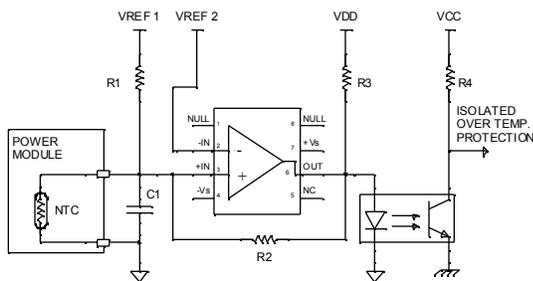

Fig 2: Example of NTC thermistor comparator circuit
The NTC thermistor can easily be used for module protection without computing the actual thermistor temperature. Comparing the voltage across the NTC thermistor to a reference voltage (see figure 2), and stopping the operation of the module if it becomes too hot reduces the risk of module failure.
If the NTC thermistor is placed in the bottom leg of a voltage divider as in figure 2, the resulting voltage at the input of the comparator decreases from almost VREF1 to the voltage trigger level VREF2 as the NTC thermistor temperature increases.
In practice, a comparator with hysteresis is used, and resistors R1 and R2 must be adjusted to set the amount of hysteresis. The hysteresis equals the output swing of the comparator attenuated by the resistive divider of R1 // RT and R2. Assuming rail-to-rail output swing of the comparator in figure 2,
recommended to parallel a capacitor. This capacitor ( $C_1$  in figure 2) must be between 10 to 100nF. Even using a 100nF decoupling capacitor, which guarantees a very high noise immunity level, the time constant at 25°C is only 400 microseconds, e.g.,  $\tau = (R_1 // R_T) \cdot C_1$ , more than 1000 times lower than the time constant of the NTC thermistor itself. In most cases, a 10nF decoupling capacitor is more than enough to ensure good noise immunity.
We know the values of  $B_{25/85}$ ,  $T_{25}$ , and  $R_{25}$ : for example 4080K, 298.15K, and 68kΩ respectively. Once we determine the value of  $R_T$  we can compute the temperature. Referring to figure 2, the voltage  $V_T$  across the NTC thermistor is
- The NTC thermistor is used in a comparator circuit, which is isolated from the control logic by an opto-coupler (see figure 2). Usually other protections like short-circuit, over-current, over-temperature, etc. are also performed at the switch level. The resulting fault signals can all be summed together and transmitted via the same opto-coupler.